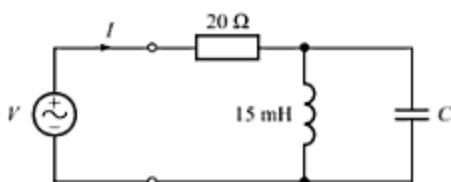

Fig. 10.17
25. For the circuit shown in Fig. 10.17, calculate the value of  $C$  such that the input current is  $45^\circ$  out of phase with the input voltage at frequency  $\omega = 2000$  rad/s.